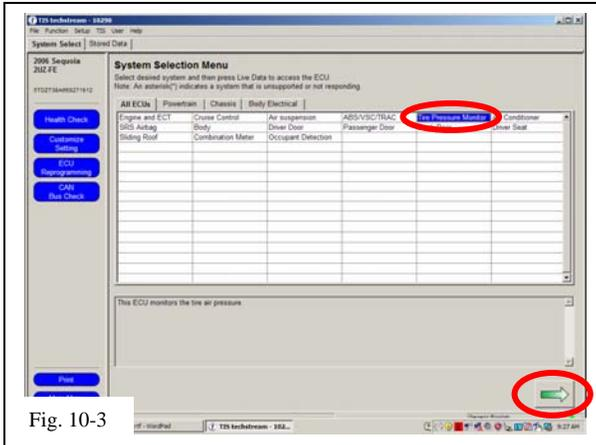

Fig. 10-3
- (f) Select “**Tire Pressure Monitor**” then click the green arrow located on the bottom right. (Fig. 10-3)